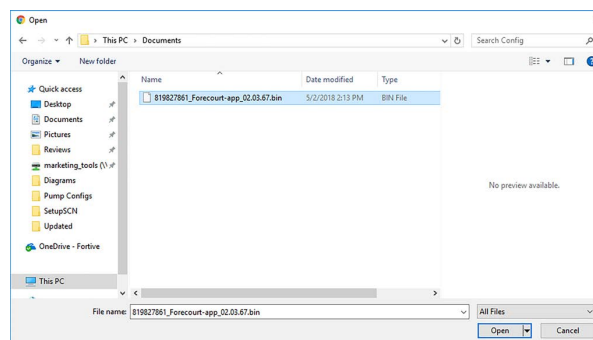

Figure 5-15 - Choose File Dialog
2. Click on **Choose File** to select the updated software file. The following dialog appears (see Figure 5-15):